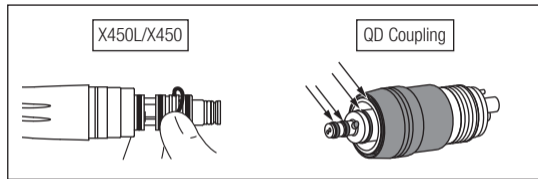

Fig. 15
- 2) Gently remove each O-ring by hand. (Fig. 15)